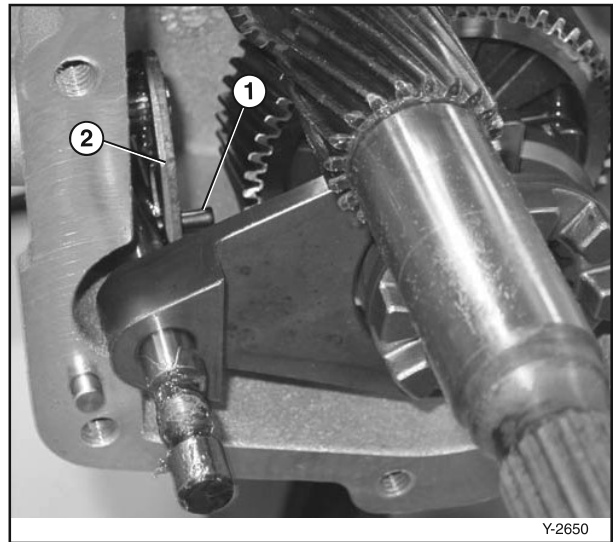

Figure 6-56
4. Install the shift fork and shift collar onto the countershaft making sure that the roll pin (Figure 6-56, (1)) on the shift fork shaft is in the groove on the shifter lever (Figure 6-56, (2)).